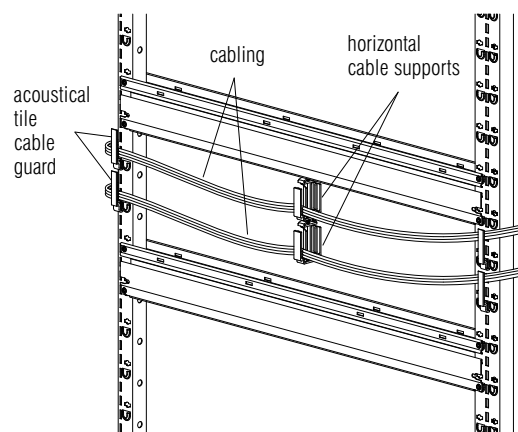

Figure 61
3. When the necessary wire guards and supports are installed, lay the cabling in place behind the guards and supports. **Figure 61.**